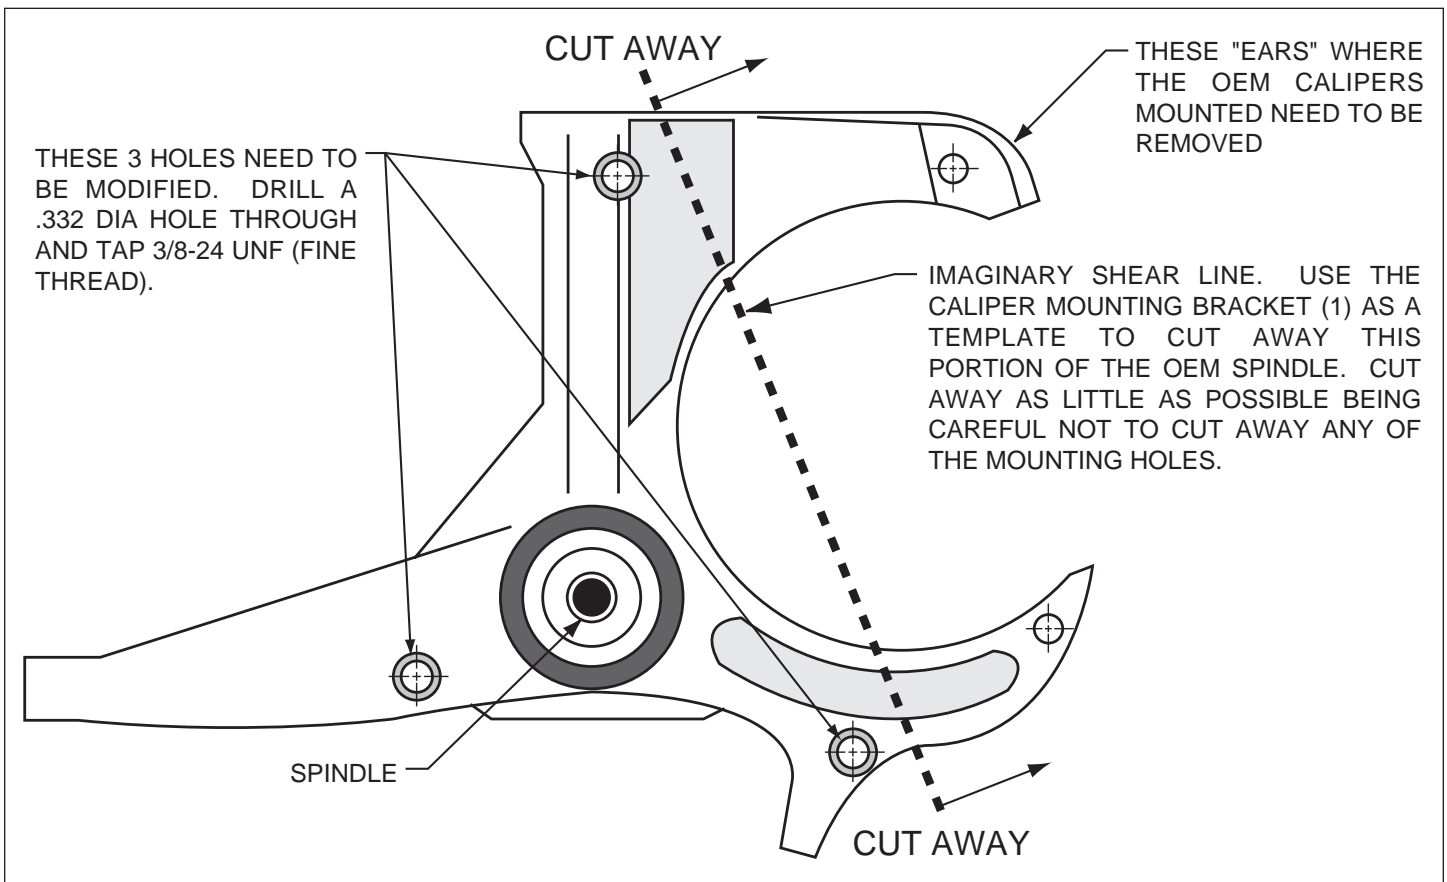

Figure 2. Typical Steering Arm / Spindle Modifications
- Review the wheel clearance diagram (figure 2, page 3) to verify that there is adequate clearance with the wheels you will be using with the installation.
These modifications (described in detail on page 4) should be performed by a qualified machinist. Refer to Figure 2 (below) as necessary. Only one view of the steering arm/spindle is shown, but the modifications need to be performed on both steering arm/spindles.